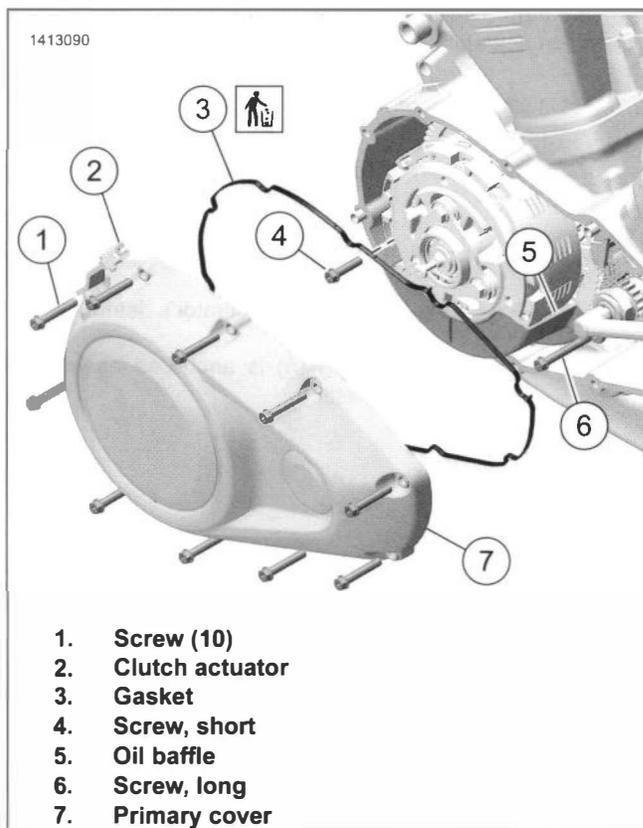
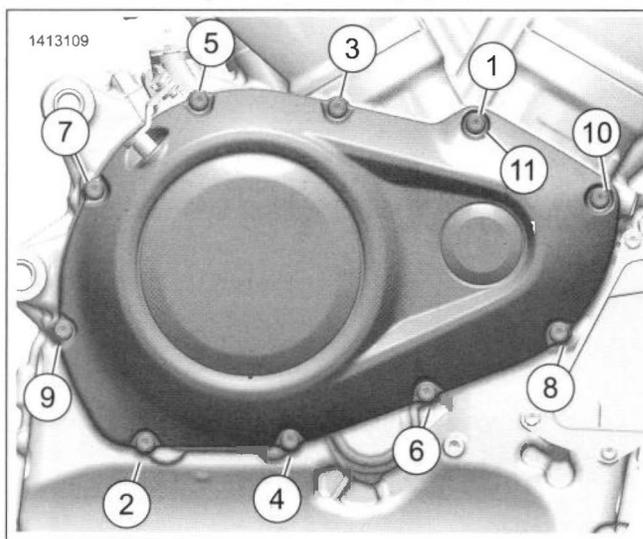

Figure 4-63. Primary Cover
Figure 4-64. Primary Cover Torque Sequence
1. See Figure 4-63. Remove screws (1).
2. Remove primary cover (7).
3. Remove and discard gasket (3).
1. See Figure 4-63. Remove screws (4, 6).
2. Remove oil baffle (5).
1. See Figure 4-63. Install oil baffle (5).
1. See Figure 4-63. Clean groove in primary cover (7) from all residual oil and debris.
2. Install **new** gasket (3) to primary cover (7).
- a. Rotate clutch actuator (2) counter-clockwise.
- b. Align and install primary cover (7) to engine.
- c. Rotate clutch actuator (2) clockwise to set cover (7) in place and to engage the clutch mechanism.
- d. Install screws (1).
4. See Figure 4-64. Tighten screws in sequence.